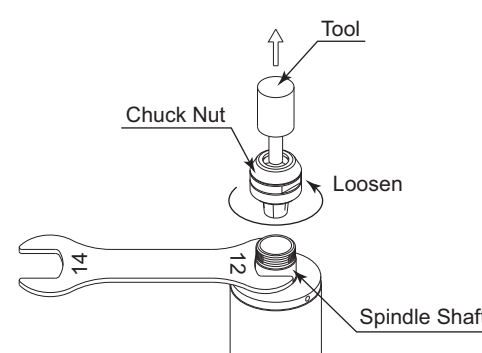

Fig. 4
- ① Remove the tool according to the section " 5. CHANGING THE TOOL " procedure above and remove chuck nut assembly. (Fig. 4)